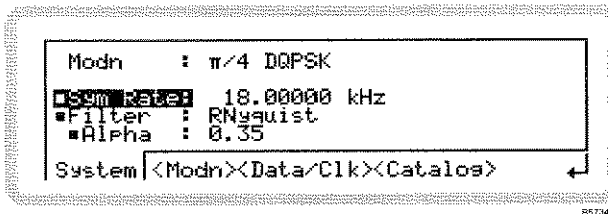
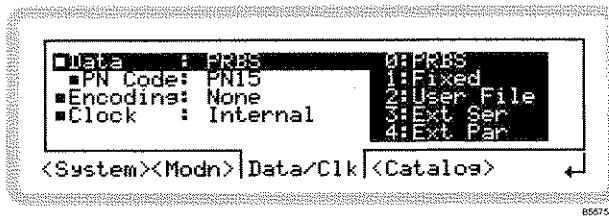

Fig. 3-40 Generic modulation
Fig. 3-42 Data and clock source selection
- 2 Press **SIG GEN** to show the main screen, and touch the **IQ** soft box to select the function. Touch **Generic** and press **↓** to view the Generic modulation menu (Fig. 3-40).
From the generic modulation screen of Fig. 3-40, touch <Modn> or press **[TAB]** to display the modulation selection screen (Fig. 3-41).
From the generic modulation screen of Fig. 3-40, touch <Data/Clk> or press **<TAB>** to display the data and clock source screen (Fig. 3-42).